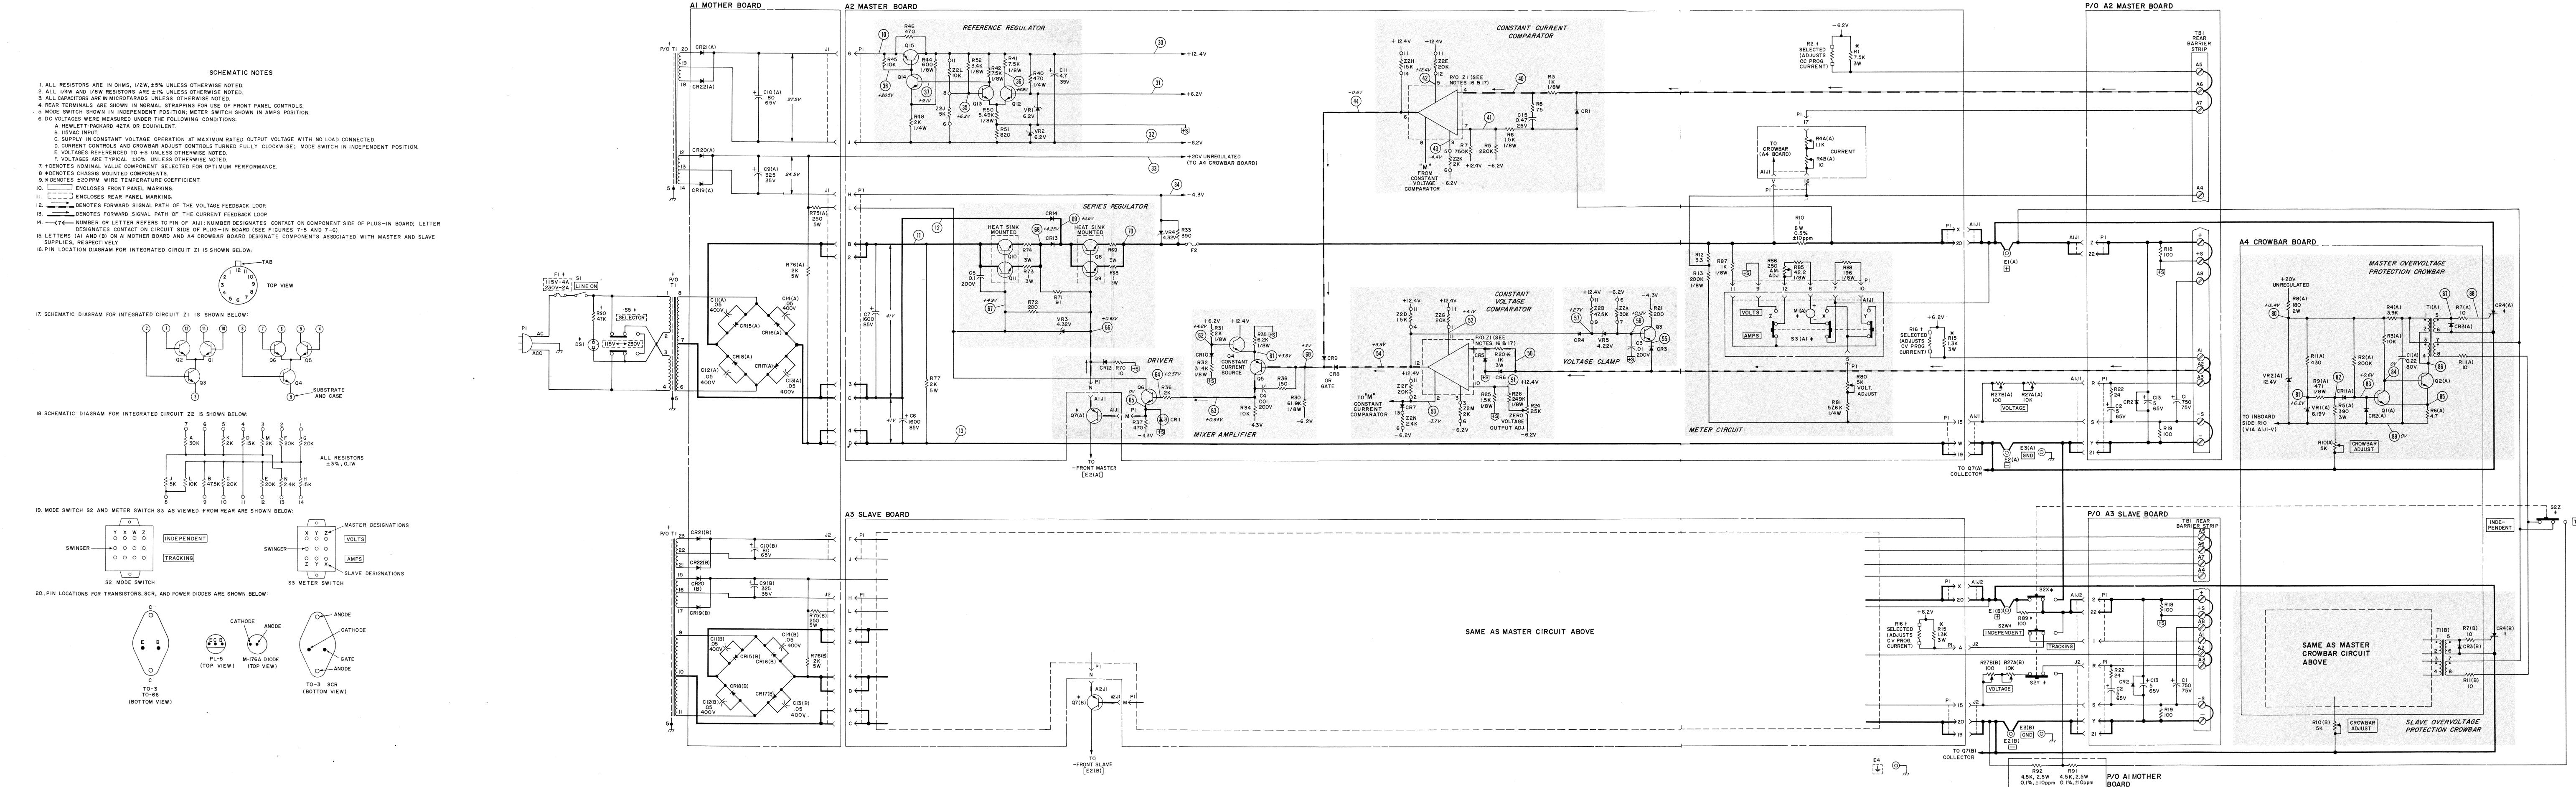

Figure 7-7. Model 6228B, Schematic Diagram
b. The schematic diagram (Figure 7-7), illustrating the circuitry for the entire power supply. Test points (encircled numbers) are given on the schematic. These points coincide with the test points on the component location diagrams and are referred to throughout the text. Voltages are given in italics adjacent to the test points.